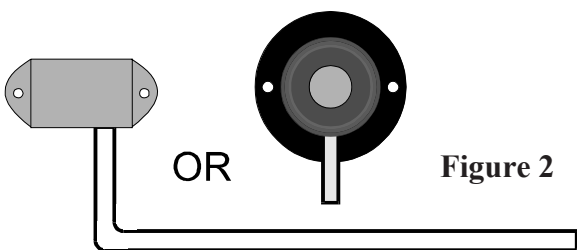

Figure 2
- Mount the sensor in a dry, low area of your boat where gas vapours tend to settle. Do not place the sensor in a humid area such as an outside locker or in an area where it may get wet. Humidity will slowly degrade the sensor and water will destroy it. Orient the sensor with the two small stainless steel screws as shown in Figure 2.